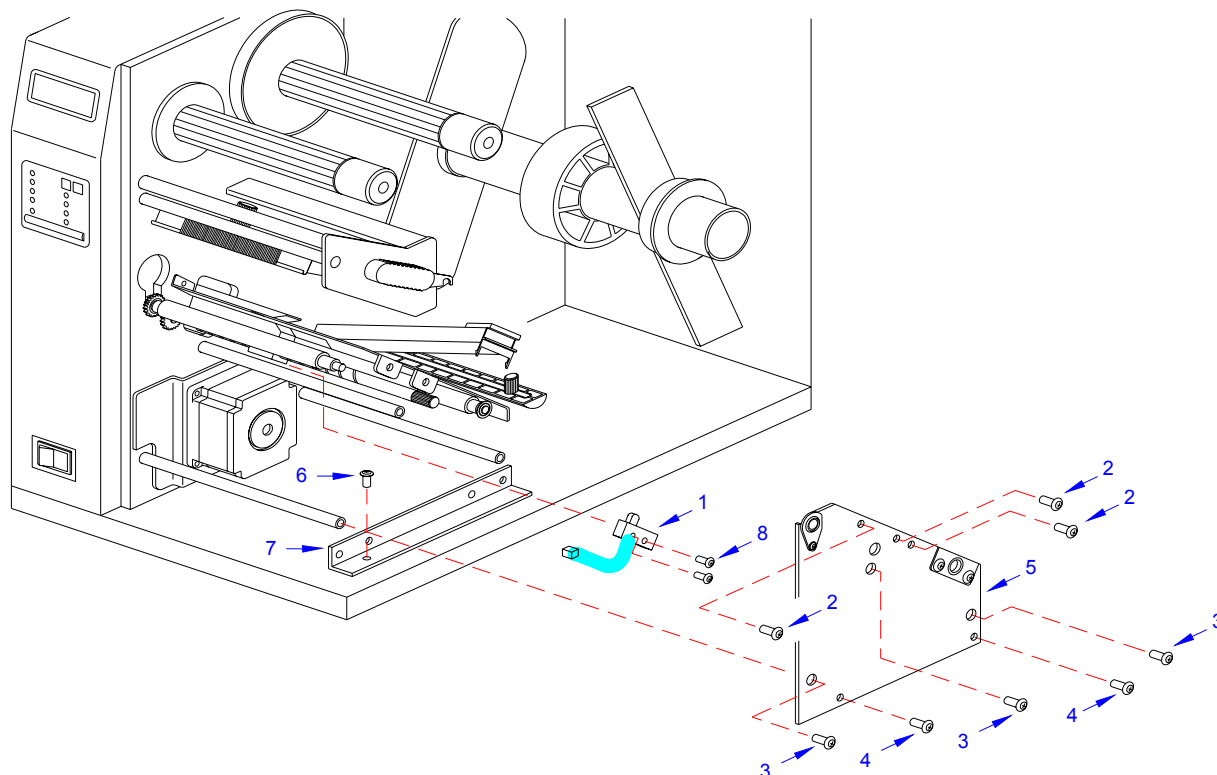

Figure 7-15, Label-Out Sensor Switch Replacement
- 3 Remove ribbon and media to provide free access to label-out sensor (1, Figure 7-15).
- 4 Remove two screws (2), (3), and (4) from side frame (5).
- 5 Remove one screw (6) from side frame bracket (7) to permit side frame (5) removal.
- 6 Remove two screws (8) securing label-out sensor switch (1).